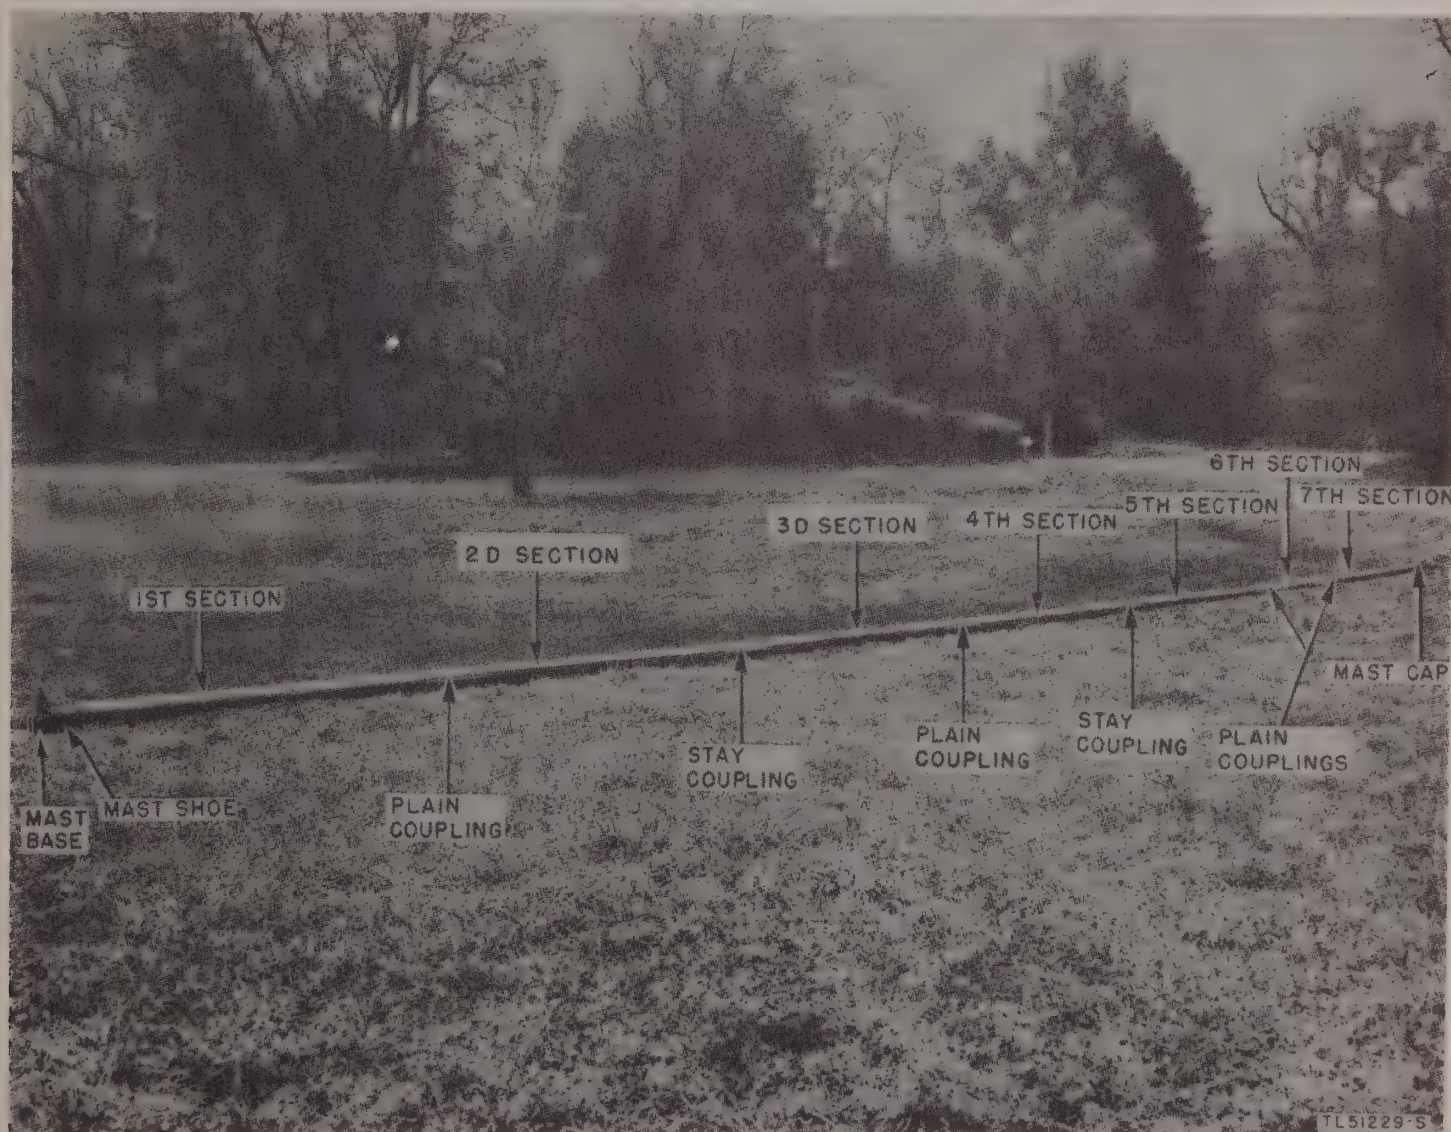
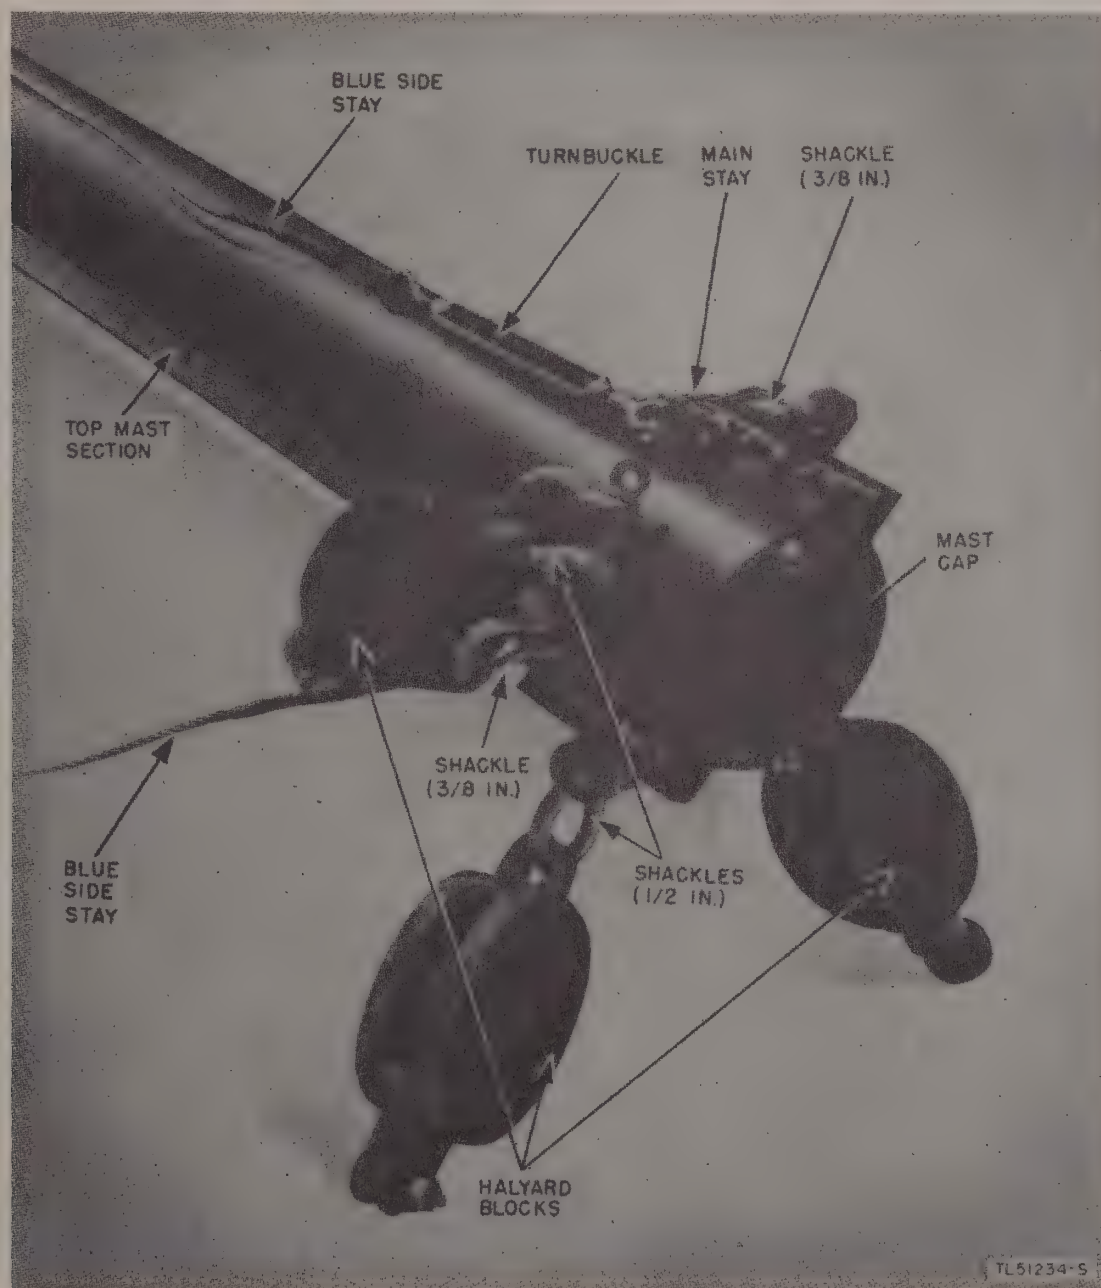

Figure 8. Mast assembly.
Figure 14. Mast cap assembly.
Figure 8 shows the layout of the mast sections and couplings. The bottom section has the mast shoe attached to it; the sixth section is the short section; the seventh section is the top section with the mast cap attached to it (fig. 14). All sections are connected to one another by metal couplings.
checking figure 8 for the placement of sections with plain or stay attachment couplings. Do not install the top section until after the mast cap has been connected to it. The 5-foot 6-inch mast section must be used as the sixth section.
e. Mast Cap (fig. 14). Slide the mast cap over the end of the top mast section (seventh section, fig. 8) making sure that the positioning bolts in the top of the mast cap fit into the notches at the mast section end. Tighten clamping bolts. Install the top mast section in the same manner as described in subparagraph d above.
d. Main Stay (figs. 2, 14, and 16). Using a $\frac{3}{8}$ -inch shackle, connect the main stay to the mast cap (fig. 14). Do *not* connect the main stay to the main stay anchor until the mast has been erected and all side stays have been adjusted. Lay the main stay along the mast between A and B stays.
Halyard blocks are upset shackle blocks with $\frac{1}{2}$ -inch shackles attached. They are used to connect the antenna rigging to the mast cap. Connect the three halyard blocks to the mast cap (fig. 14). Attach appropriate antenna rigging to appropriate halyard block or blocks.